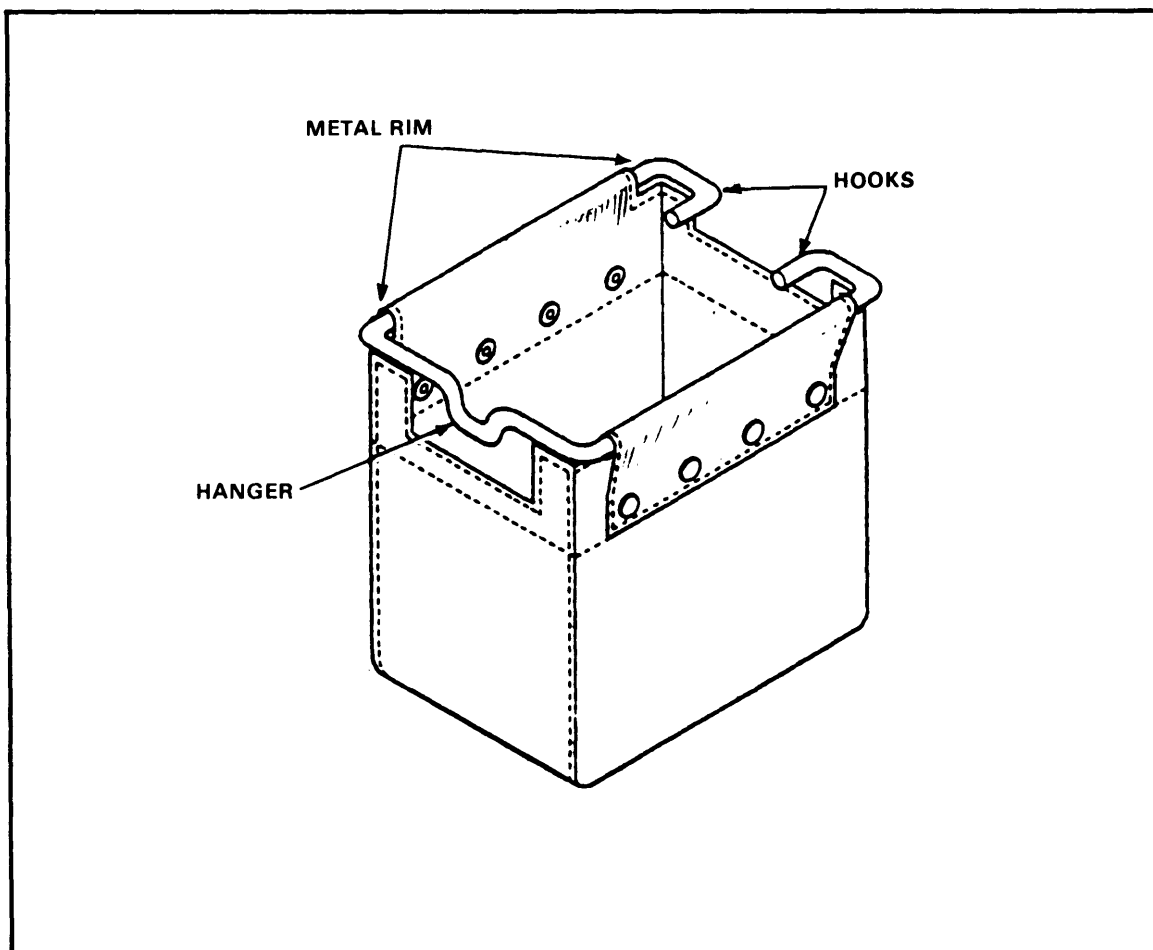

Figure 3-19. Empty case catch bag.
(6) Empty case catch bag. This bag catches empty cartridge cases as they are ejected. It is made of rubberized canvas. It is held in place by a metal rim, which attaches to the bottom of the cradle under the receiver by two hooks and a hanger (Figure 3-19).